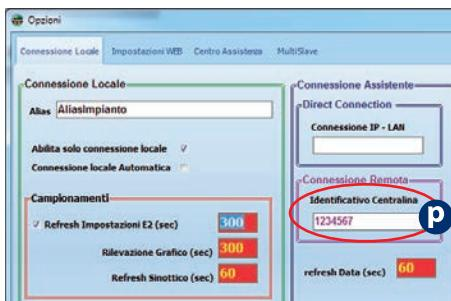

FIG. 5.3.6
*Once this data is inserted into the provided field ("Setting menu -> Options -> Assistance Centre -> Assistance Centre ID") **S** (Fig. 5.3.6), insert the two passwords in the following fields:*
S (Fig. 5.3.6), inserire nei campi sottostanti le due password in possesso: